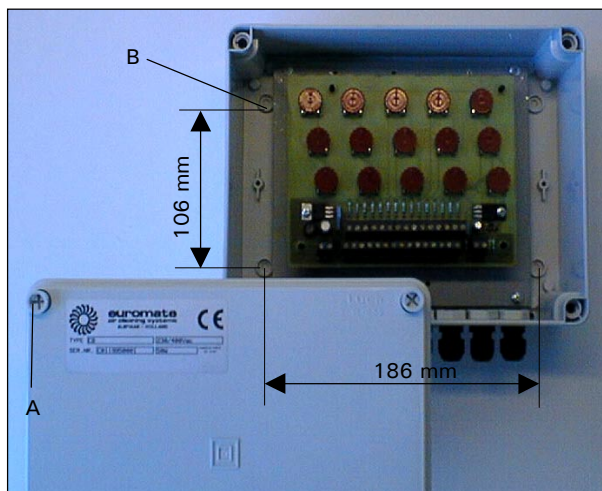

fig. 4
- Loosen the mounting screws and remove the cover (see fig. 4).
- Attach the housing using four screws against the wall. For this purpose mounting holes (B) have been provided in the housing (see fig. 4).